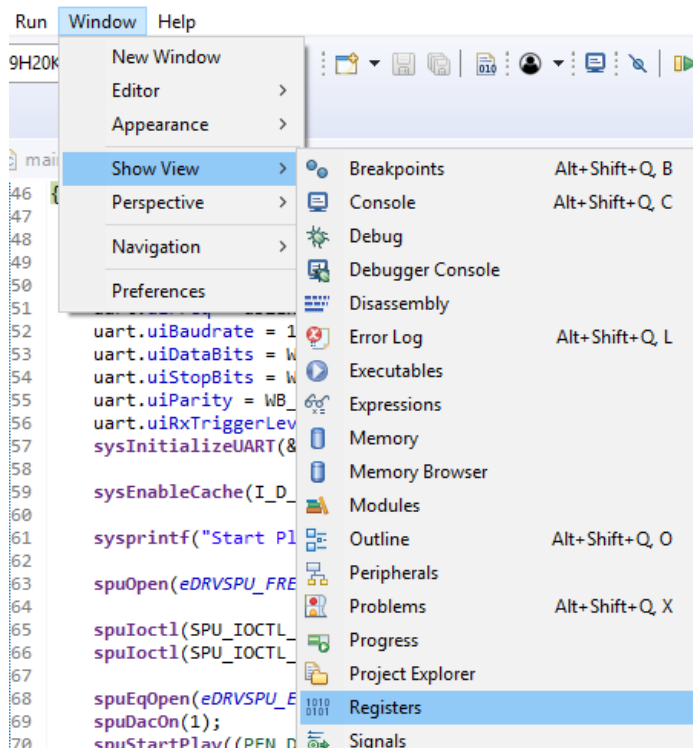

Figure 3-9 Dump General Register
4. Dump general **Registers** window as in Figure 3-9.